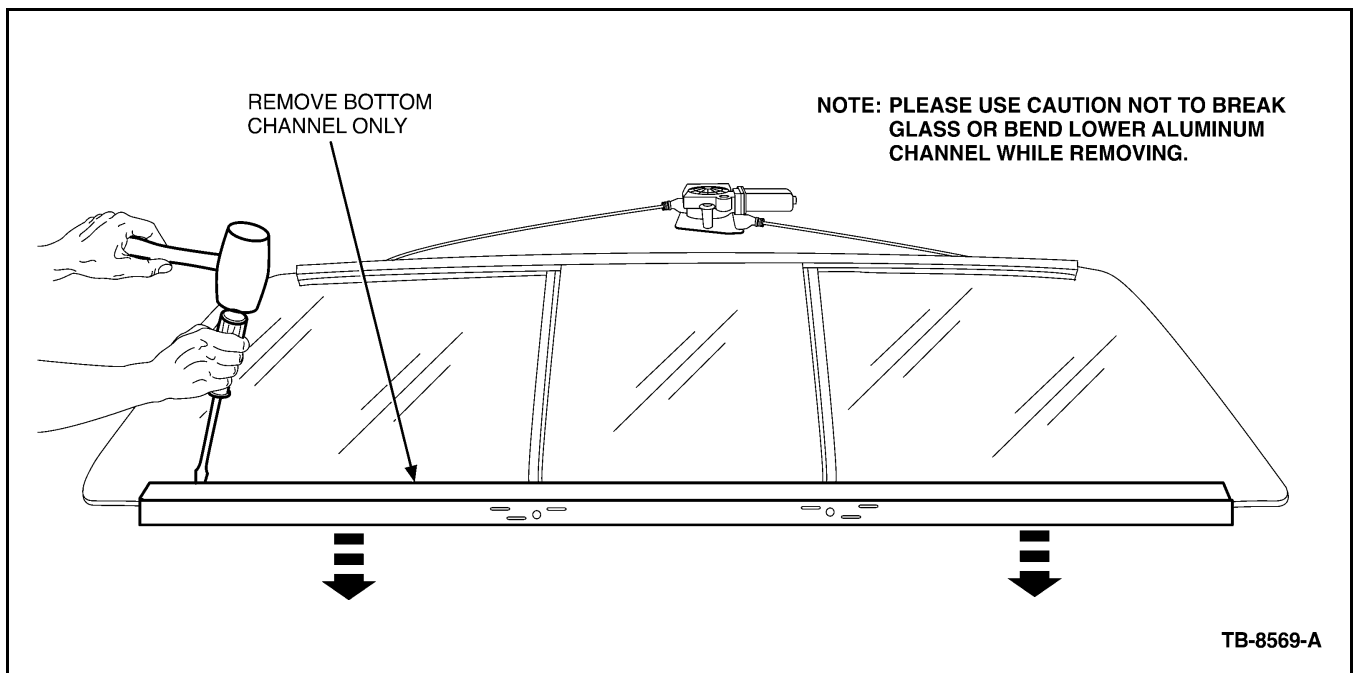

Figure 5 - Article 06-15-5
12. Insert screw driver into lower channel and hit with mallet to separate lower channel from the window assembly (Figure 5).